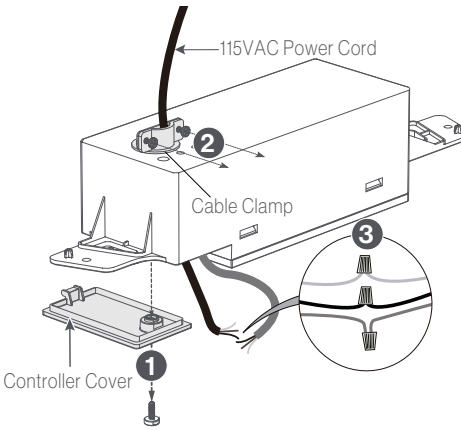

Fig. 4
- Pass the 115VAC power cord through the cable clamp hole and make wire connections following the below color codes (Fig. 4):